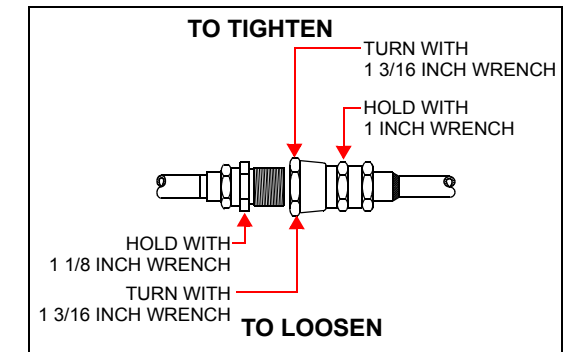

Figure 5: Helium Flex Line Connections
- 3) Connect **helium return** line. See *Figure 1C* and *Figure 5*.
- 4) Connect **helium supply** line. See *Figure 1H* and *Figure 5*.